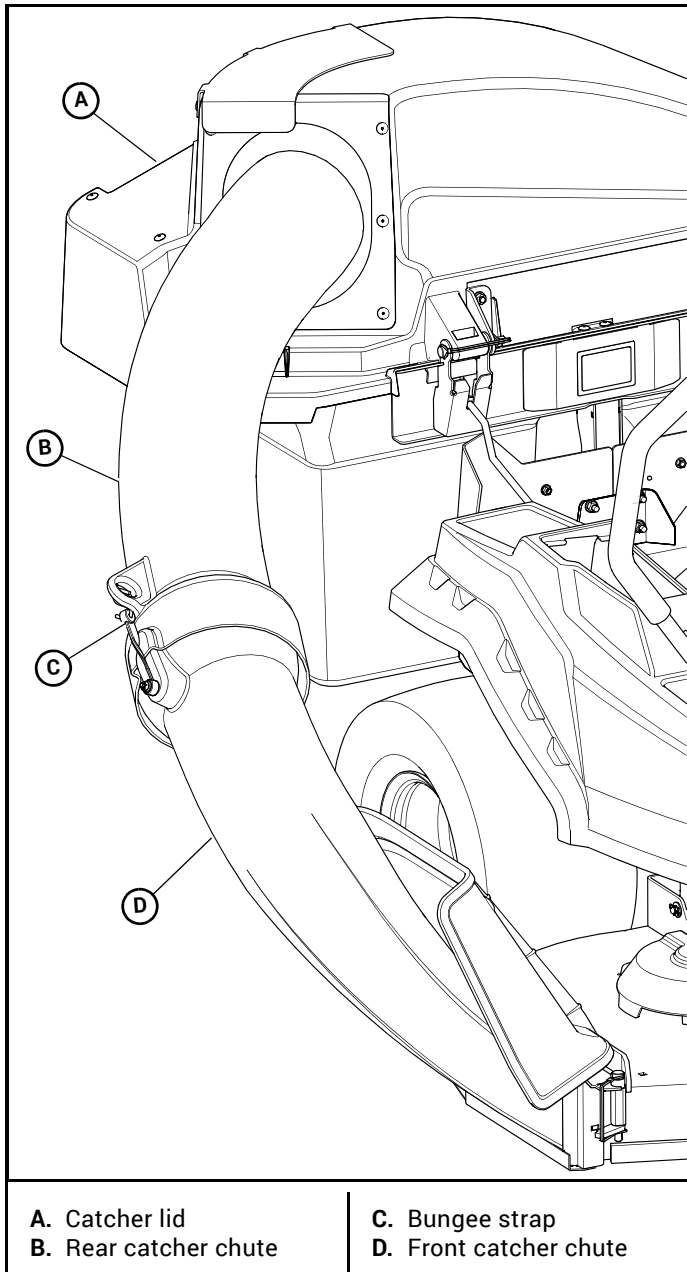

Figure 5-1
- Rear catcher chute is in place and secured on the front catcher chute and deck. Figure 5-1
- Transfer tube is secured in place, with the elastic strap, on the outlet tube and is inserted into the catcher lid. Figure 5-1